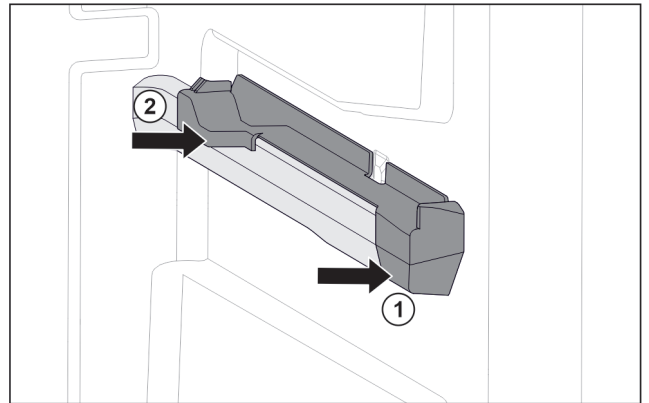

Fig. 51 Attachment on the right moulded rib
- ▶ Position attachment on moulded rib at the front. Fig. 51 (1)
- ▶ Press on attachment at the back. Fig. 51 (2)